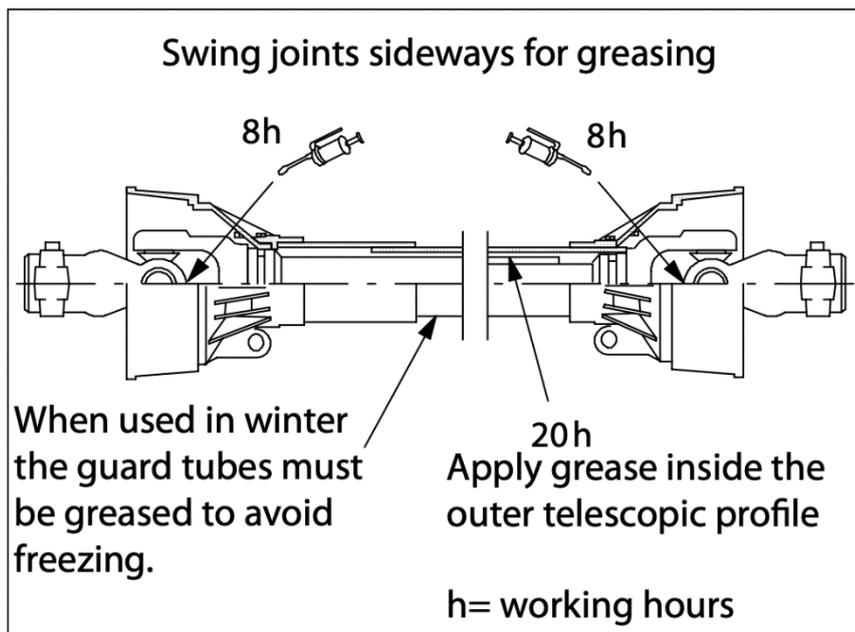

Fig. 15.
2. Grease the PTO-shaft regularly and always before use as shown in figure 15.